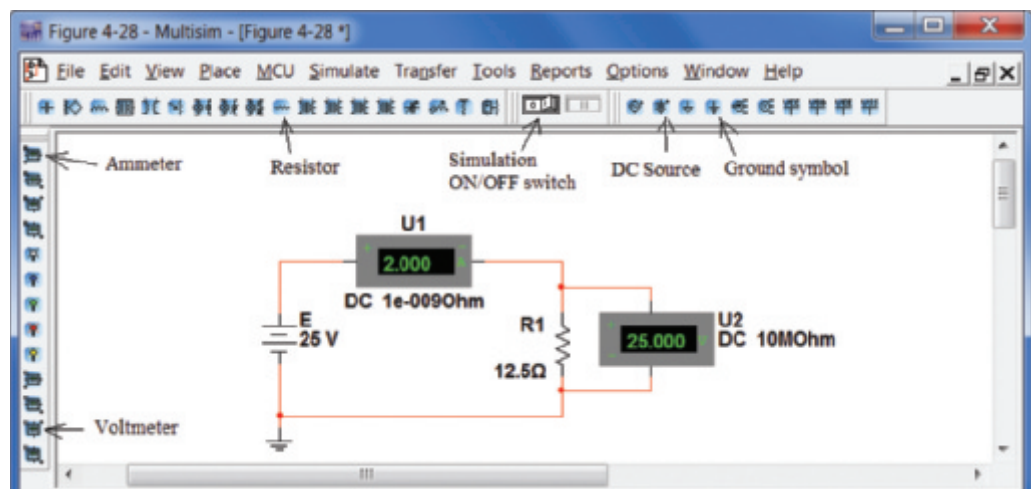

FIGURE 4–28 Multisim simulation of circuit of Figure 4–27.
Double-click the Multisim shortcut icon on your computer. A screen similar to that of Figure 4–28 (except that it is blank) opens. Place your mouse pointer on View and left-click. If either *Spreadsheet View* or *Description Box* is selected, click the selected item to deselect it.
To ensure that you have the toolbars selected that you need for this problem, right-click *View*, then confirm that the following are selected: *Basic*, *Measurement Components*, *Power Source Component*, and *Simulation Switch*. (For legacy software users, select *Simulation* instead of *Simulation Switch*.) Click any that are not selected to add them to your screen. (Don't worry if others are selected—you may need them in later examples.) Now compare your screen to that of Figure 4–28. You will probably find that the screen layouts are different, but that all items pointed to by arrows on Figure 4–28 are found somewhere on your screen.
To gain familiarity with your workspace screen, experiment a bit. For example, locate each of the items indicated by arrows on Figure 4–28 and place your mouse pointer on them. A small banner opens identifying each. (Familiarity is important because, in what follows, we refer to items by name and you need to be able to locate them.)
- Position the ghost on your workspace as in Figure 4–28, then click the left button to place it. (If the ghost remains after the source has been placed, right-click to cancel.)